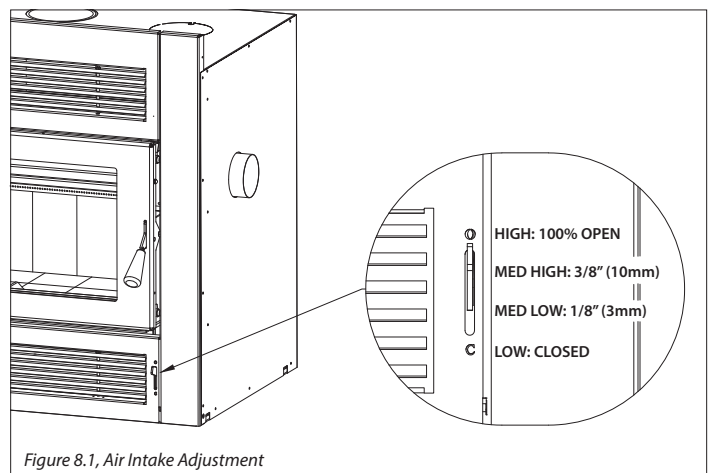

Figure 8.1, Air Intake Adjustment
6. As the kindling burns continue to add slightly larger wood. If possible lay (2) logs front to back on the sides of the firebox with larger kindling or small logs diagonally over the base.
9. Adjust intake damper to desired heat output position. See Figure 8.1. To keep glass cleaner, never completely close the intake damper.